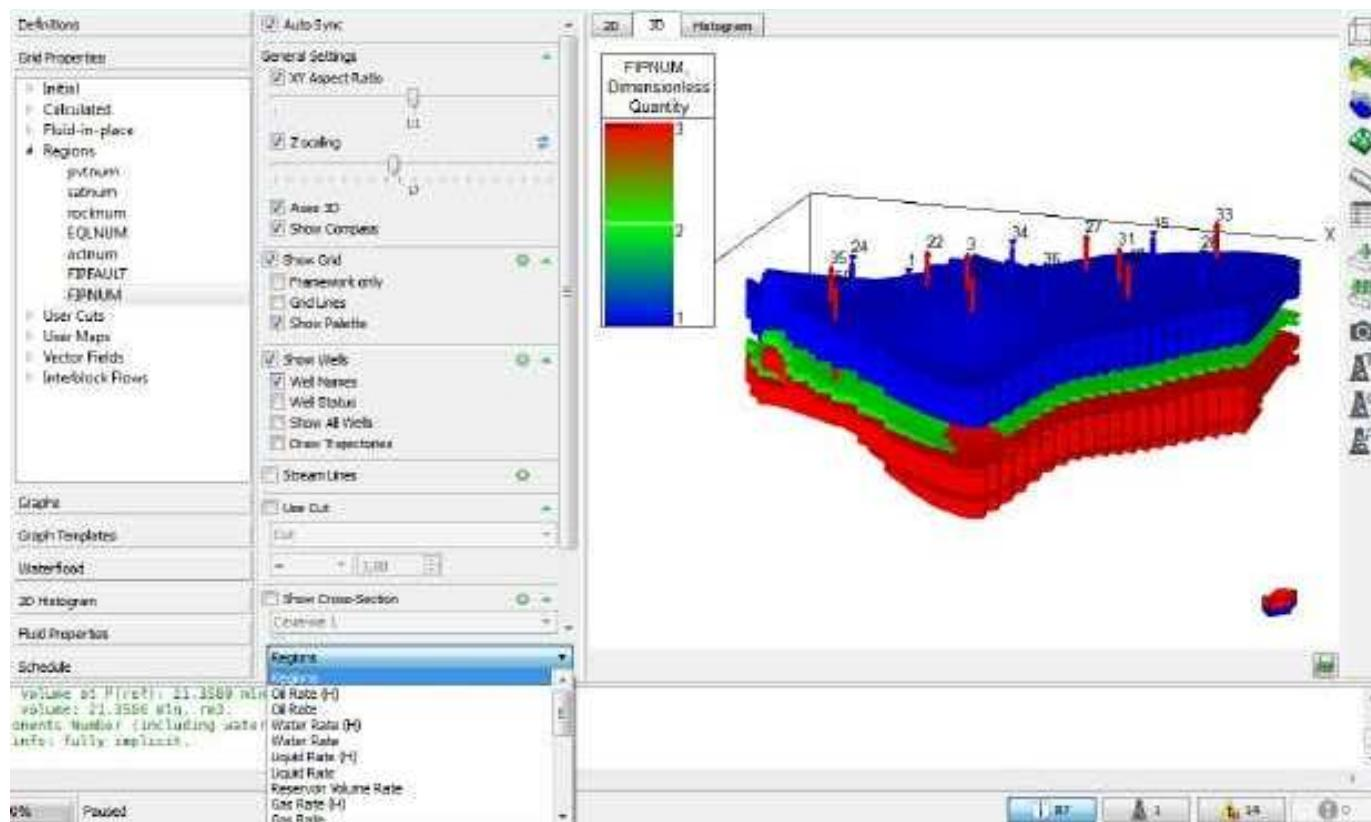

Figure 19. Menu of properties for FIP regions.
FIPNUM (see 12.4.10) (Fluid-in-place Regions)	<p>All the reporting data will be shown for these regions. It is possible to view the following properties for fluid-in-place regions:</p> <ul style="list-style-type: none"> • The regions (properties showing the regions); • Water, oil, gas, and fluid rates, (H), under reservoir conditions; • Water, oil, and fluid production per month; • Water and gas injection rates, (H), under reservoir conditions; • Water, oil, or gas flow through the region's boundary under standard and reservoir conditions; • Aquifer water inflow. <p>Select a property in a pop-down menu at the bottom of the sub-options window – figure 19.</p>